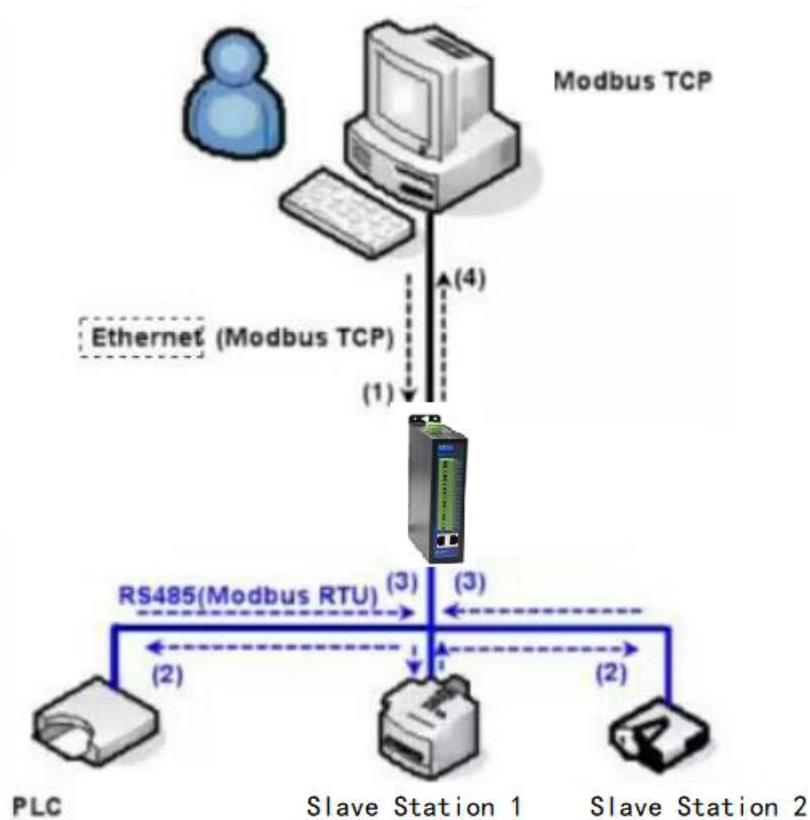

Figure 39 Working mode of storage Modbus gateway
As shown in Figure 39, the normal Modbus TCP data flow direction is (1) (2) (3) (4). That is, the Modbus TCP command is first converted into the corresponding command of Modbus RTU, and then the device responds to the Modbus RTU command to the Modbus gateway, and then the Modbus gateway is converted into Modbus TCP and sent to the monitoring host computer.